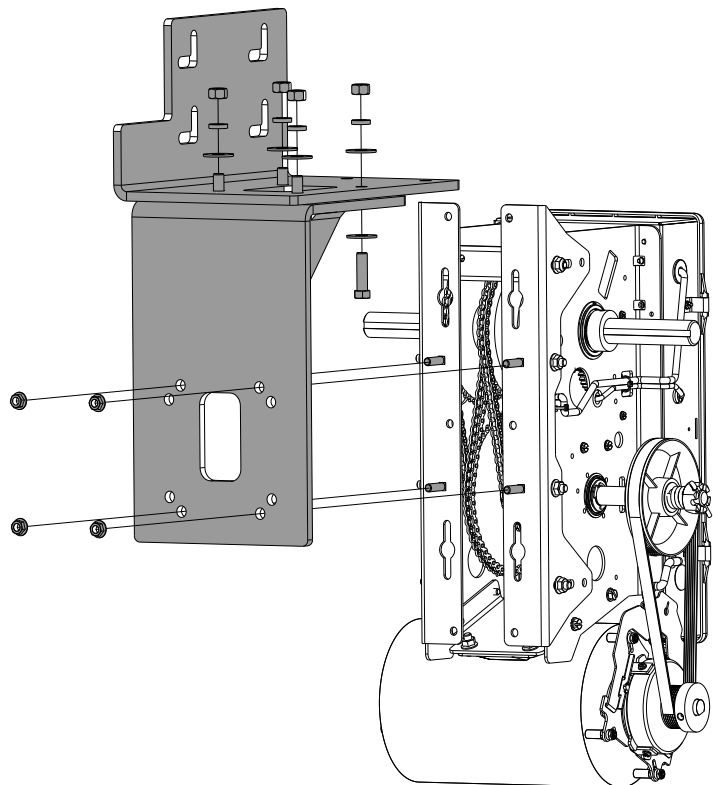

Fig. 3
- 4) Attach operator to main mounting bracket using the four 5/16"- 18 X 1-1/4" carriage bolts, flange nuts. Fig. 3